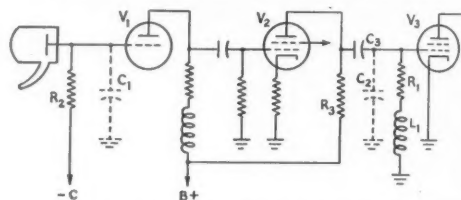

Fig. 12 — "High-peaker" stage.
the grid of the first amplifier stage without regard for frequency distortion, then carefully to preserve this distorted signal while it is being amplified in one or two stages, and finally introducing a complementary network which gives equal and opposite distortion to that generated by the input network. With frequency components from 30 cycles to about 4 Mc. in the output signal of an Iconoscope developed across R_2 in Fig. 12, it is readily seen that the shunt reactance of C_1 will limit severely the high-frequency components.
For an example let's determine L_1 , R_1 , R_3 , and C_3 of Fig. 12, assuming C_1 to be 12 $\mu\text{fd.}$ and C_2 to be 30 $\mu\text{fd.}$, f_c 5 Mc., and 30 cycles the lowest frequency. From equation (30),